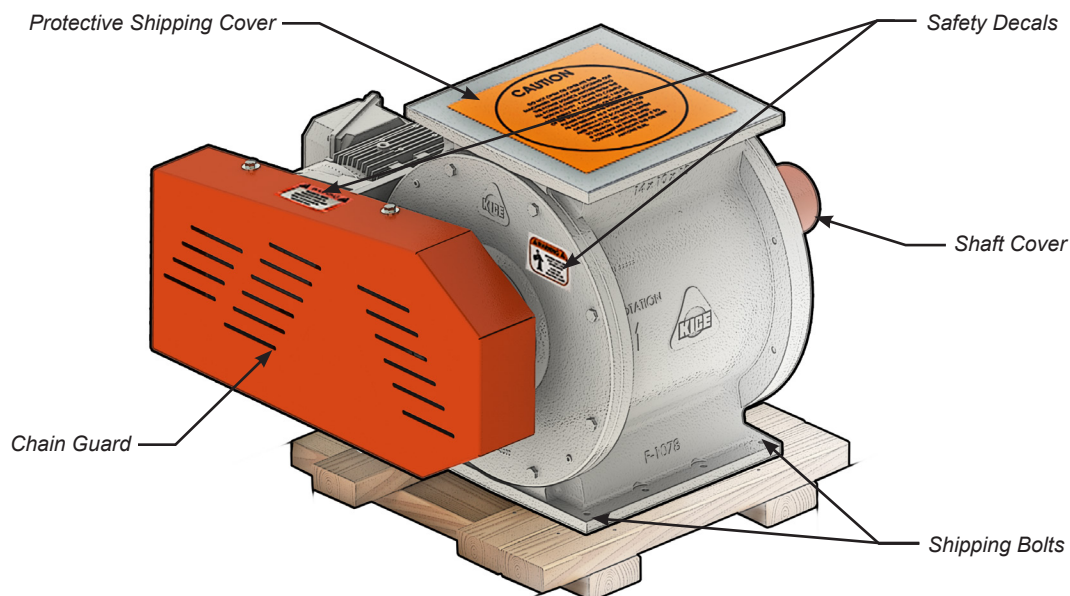

FIGURE 3
- Remove the shaft cover located on the non-drive end of the shaft and the chain guard (Figure 3).
- Remove shipping bolts securing airlock to the shipping pallet (Figure 3)
- Locate and read all safety decals (Figure 3).
- Remove the protective shipping cover (Figure 3).